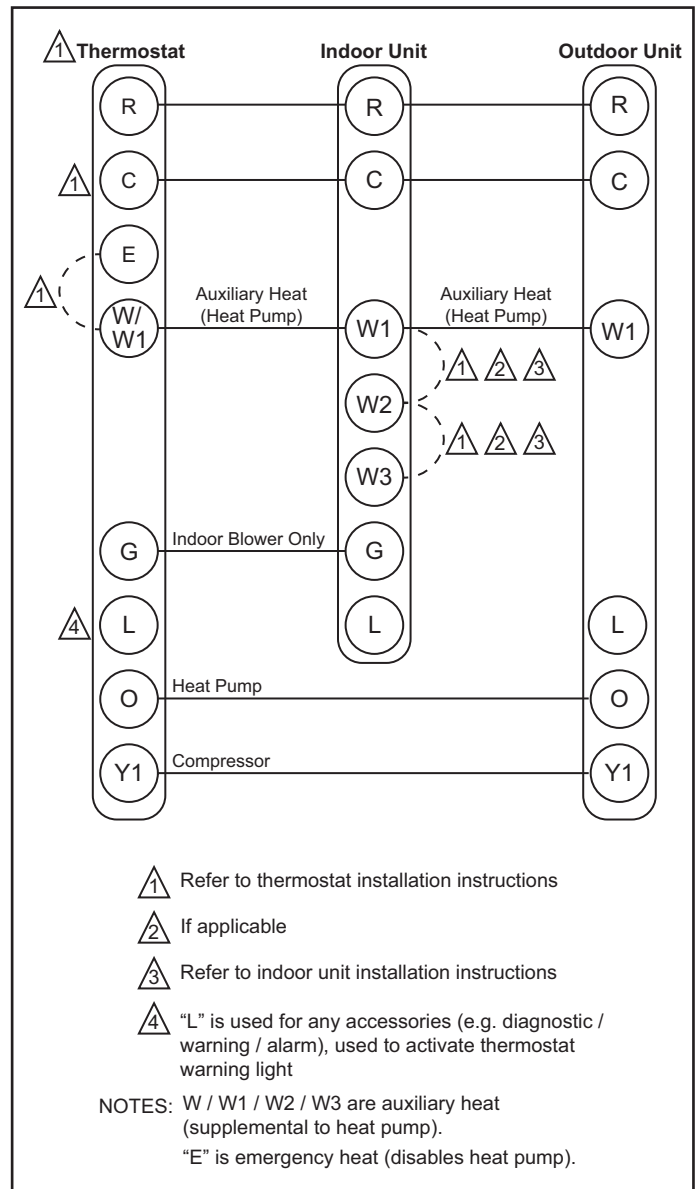

Figure 7. Thermostat Designations - Non-Communicating
4. Install low voltage wiring from outdoor to indoor unit and from thermostat to indoor unit (see Figure 7).